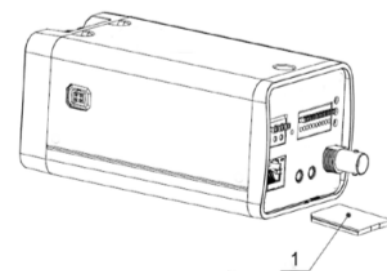

Figure 2-6
Please follow the steps listed below to remove SD card. The interface is shown as -Figure 2-6
- Use the screwdriver to fix the screw to secure the protection cap. and -Figure 2-6.